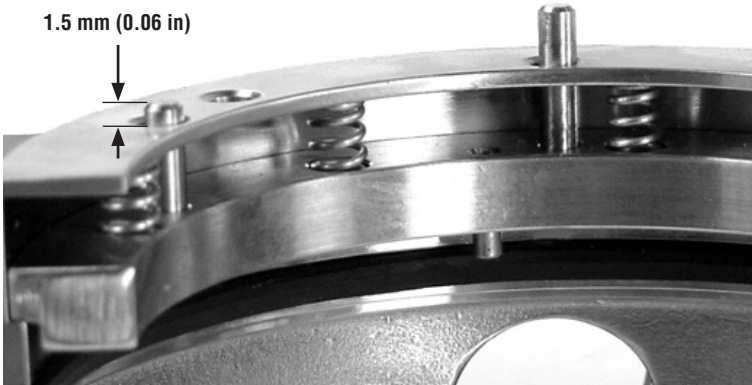

Figure 19
- 7.4 Keep the spring holder snug in the gland bore and press the lock pins into the spring holder until the pins extend 1.5 mm (0.06 in) out of the gland. See Figure 19.